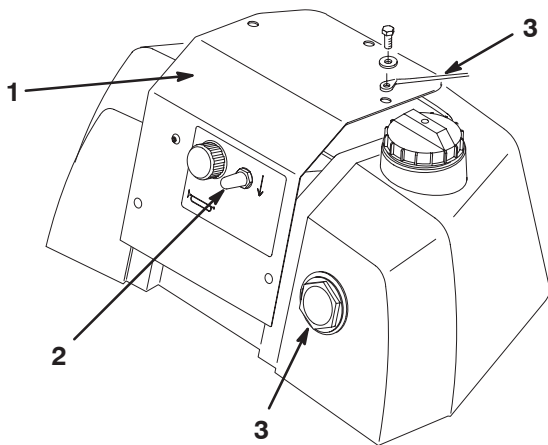

Figure 4
16. Before attaching the cover plate, test the leak detector switch (Fig. 4) with the main tractor key switch in the On/Run position. The buzzer should sound with the toggle switch held in the down position for 1 second.
18. Assemble the cover plate to the auxiliary tank with the fasteners previously removed and secure the cap tether (Fig. 4) under the nearest hole to the fill neck. Do not overtighten screws.
19. Fill the auxiliary tank to the top of the sight glass (Fig. 4).